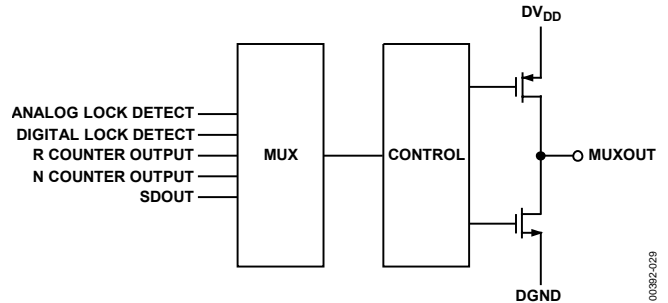
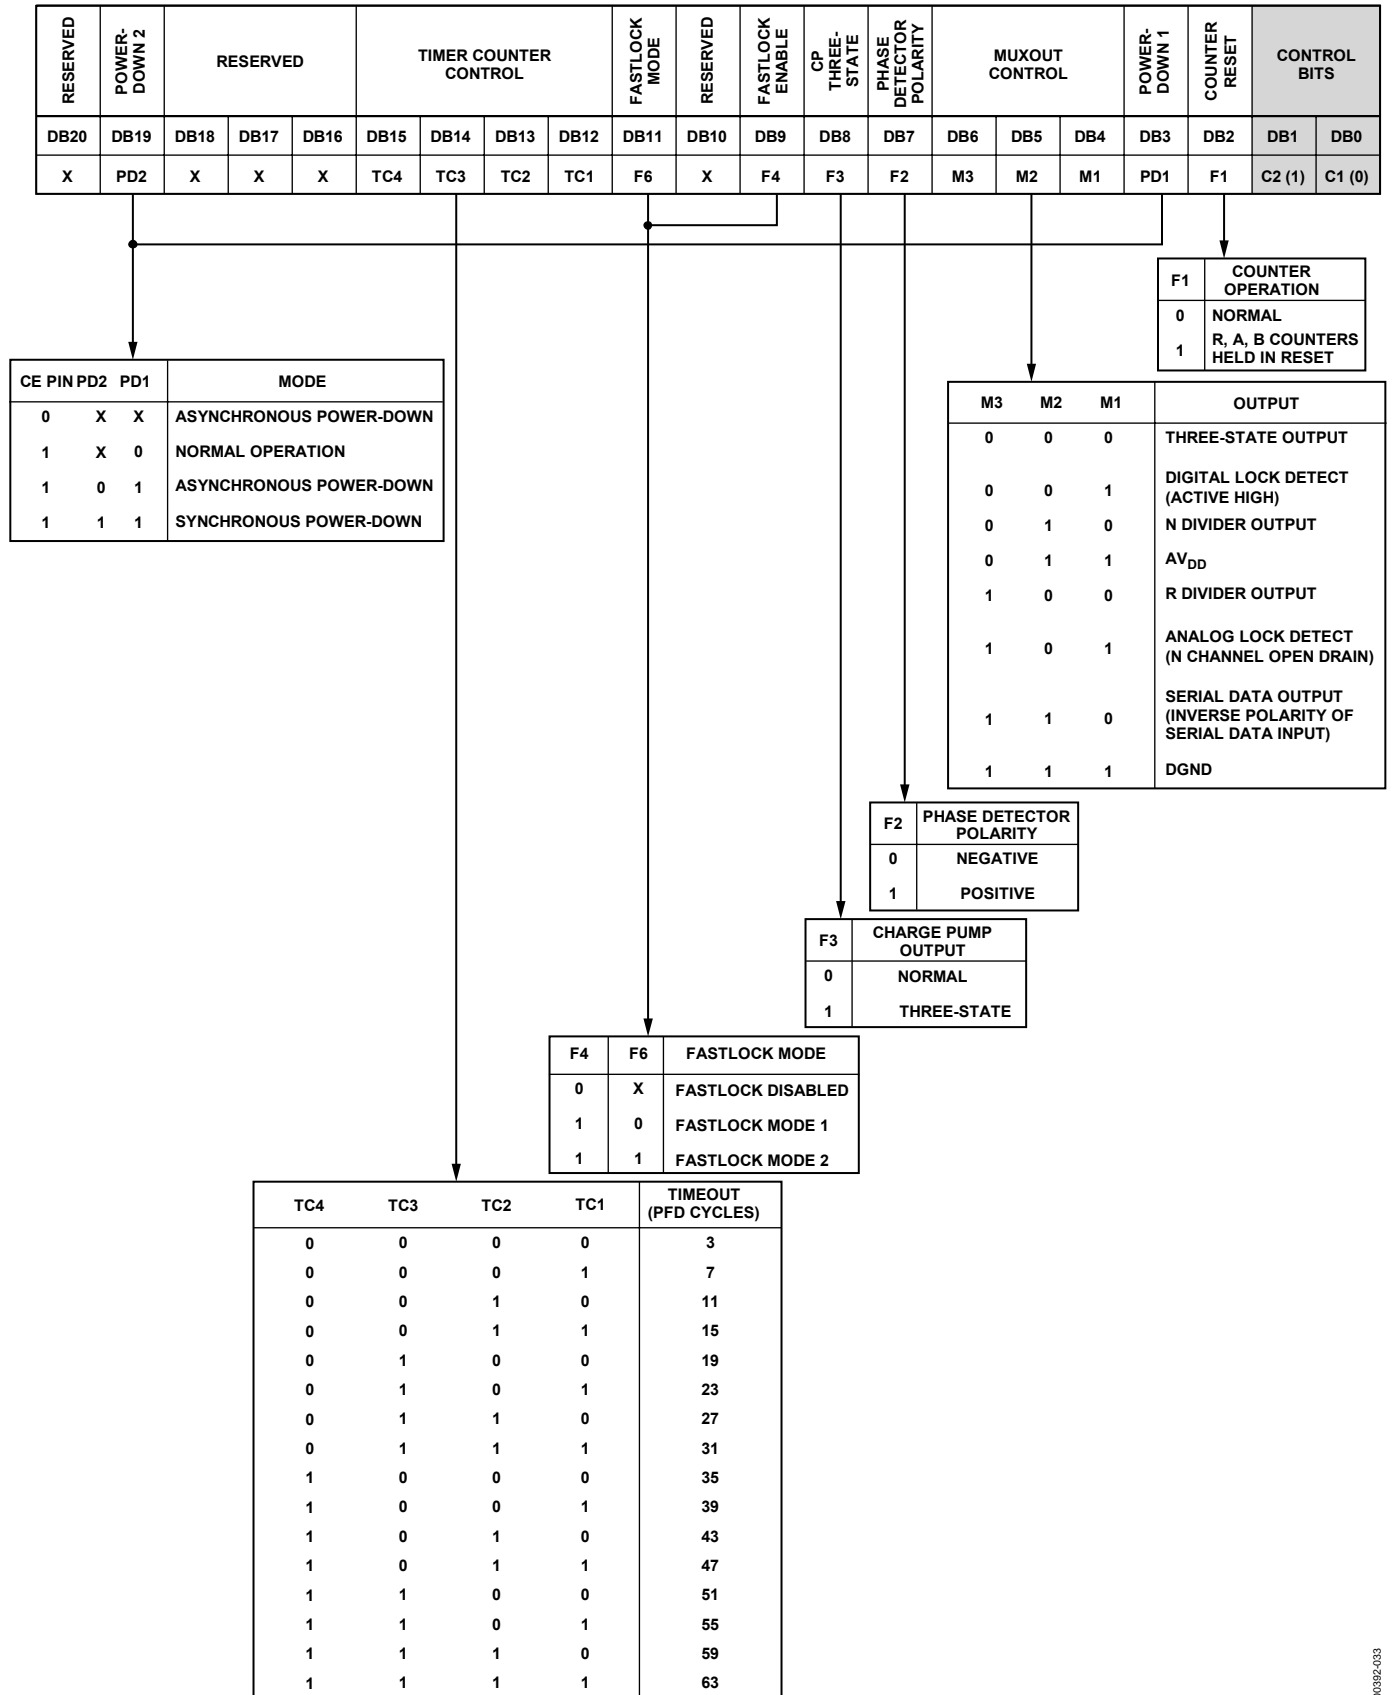

Figure 29. MUXOUT Circuit
Figure 33. Function Latch Map
The output multiplexer on the ADF411x family allows the user to access various internal points on the chip. The state of MUXOUT is controlled by M3, M2, and M1 in the function latch. Figure 33 shows the full truth table. Figure 29 shows the MUXOUT section in block diagram form.
With C2 and C1 set to 1 and 0, respectively, the on-chip function latch is programmed. Figure 33 shows the input data format for programming the function latch.
The on-chip multiplexer is controlled by DB6 (M3), DB5 (M2), and DB4 (M1) on the ADF411x family. Figure 33 shows the truth table.
- The user must also decide how long to keep the high current (1 mA) active before reverting to low current (250  $\mu$ A). This is controlled by the timer counter control bits, DB14 to DB11 (TC4 to TC1), in the function latch. The truth table is given in Figure 33.